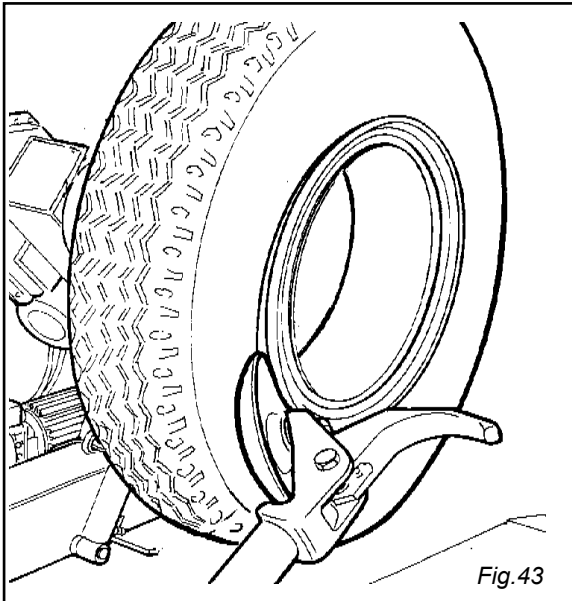

Fig. 43
- 7) Put the split-ring on the rim and then install the locking ring with the help of the disk as shown in Fig. 43.